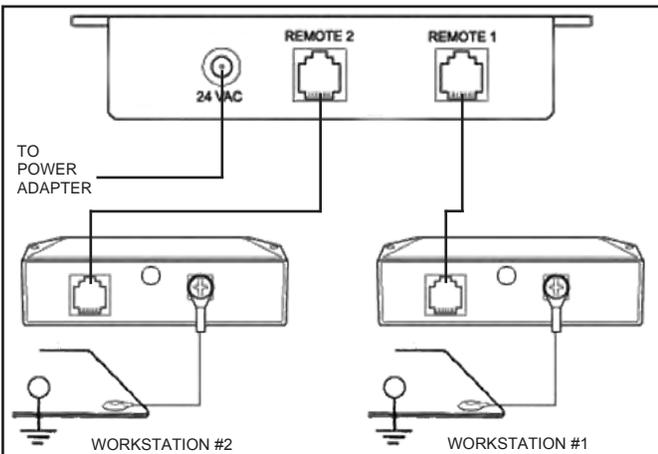

Figure 4. Wiring the Dual Operator Continuous Monitor and Satellites
1. Connect the Satellite Remotes to the Control Unit using the included cables (see Figure 4).
5. Connect the mat ground cord to the remaining push and clinch snap. Connect the other end of the cord to the back of the satellite remote (see Figures 4 and 5).